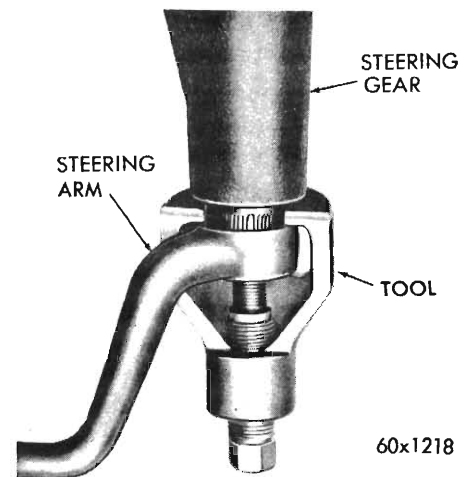

Fig. 3 - Removing steering gear arm (Tool E2C5A)
(1) Disconnect the steering gear arm from the sector shaft with Tool E2C5A (*See Fig. 3*).
(2) Remove the horn ring.
(3) Loosen the cross-shaft adjusting screw lock nut and back out the adjusting screw approximately two turns. This will relieve any friction load which may be present at the closely meshed ball nut rack and sector gear teeth.
(4) Turn the steering wheel two complete turns from the straight ahead position and place a lbs. in. torque wrench on the steering shaft nut.
(5) Rotate the steering shaft at least one turn toward the straight ahead position, while checking the rotating torque with the torque wrench.